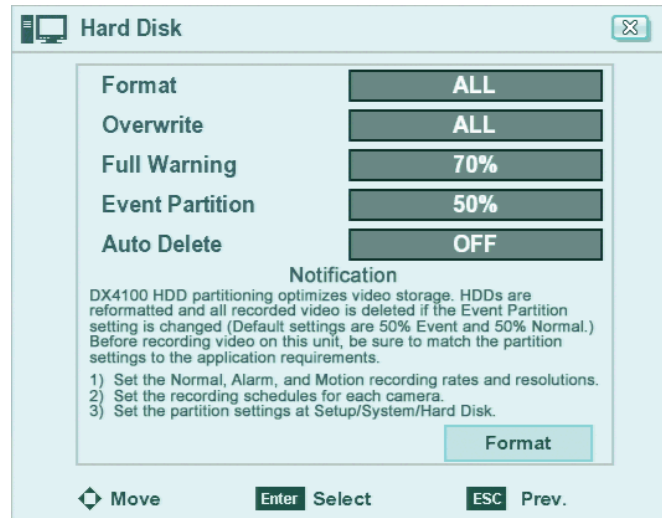

Figure 5. Hard Disk Option Partition Notification
**WARNING:** Before you use the DX4104 to record video, refer to Figure 5 and read the Hard Disk Option Partition Notification.